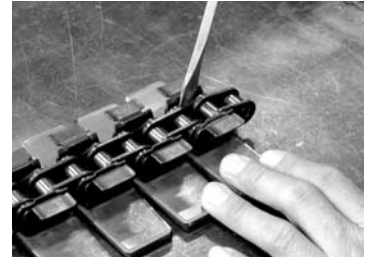

Figure 31
3. Using a screwdriver, pry off the chain pad. If more than one pad is damaged, it may be easier to remove the entire chain from the machine and place it on a bench (see Figure 31).